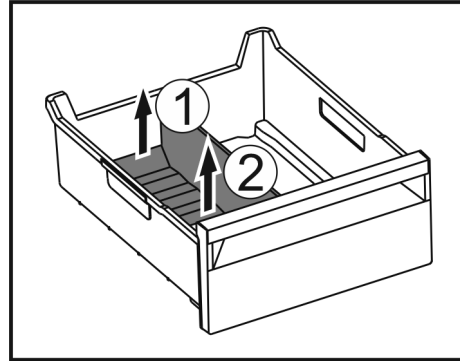

Fig. 140
- ▶ Lift the rear part of the ice compartment divider. Fig. 140 (1)
- ▶ Remove the ice compartment divider upwards. Fig. 140 (2)